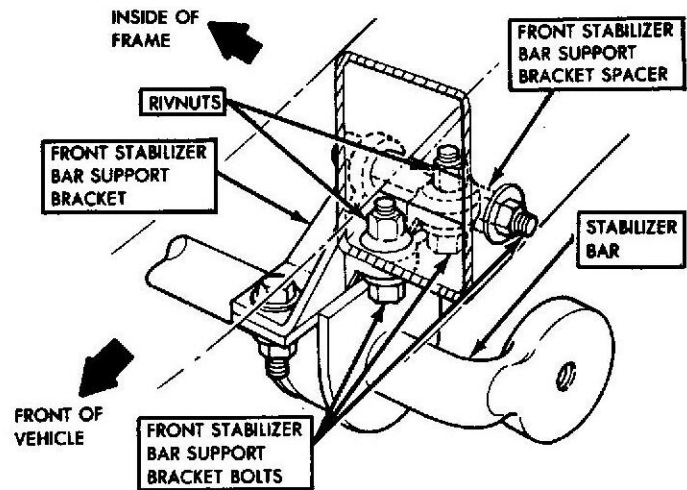

Fig. 1
(1) Remove front stabilizer bar support bracket bolts and pull stabilizer bar and bracket away from frame (see Fig. 1).
(2) Using a cold chisel and hammer, remove head of damaged Rivnut by chiseling horizontally along bottom of frame rail.
NOTE: When replacing the Rivnut closest to the front of the vehicle, partially remove the front stabilizer bar support bracket spacer by tapping it with a punch toward the center of the vehicle (see Fig. 1).